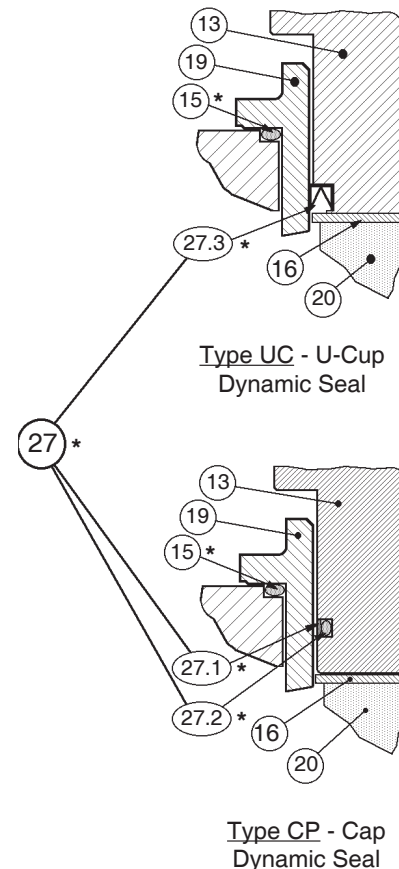
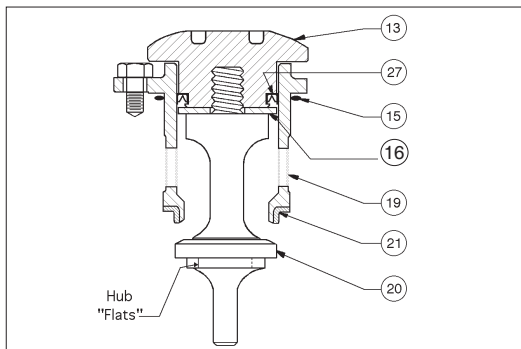

Figure 1: Dynamic Side Seals
Figure 2: Assembled ITA, with "UC" Dynamic Side Seal
6. A detailed view of the dynamic side seal parts is shown in Figure 1; an assembled ITA in Figure 2; and a cross-sectional drawing of the entire regulator is shown in Figure 3.
1. To Disassemble the ITA (See Figure 2):
- a. Hold the lower part of the valve plug (20) in a bench vise; grasp in "smooth jaws" directly under plug's (20) seating disc portion on hub "flats" provided. **Do not hold on the machined surface in the plug's (20) spindle area.**
- b. Using a special double-posted spanner wrench fitting, (to order see NOTE in Section IX Parts Ordering Information), turn the piston-guide bearing (13) CCW to loosen. The piston-guide bearing (13) may be removed by hand after loosening.
- c. Remove ITA from vise. Pull the valve plug (20) down and out through the cage's (19) bottom opening.
- d. Examine the components (27.1, 27.2, 27.3) of the dynamic side seal (27) mechanism to determine if significant leakage was occurring. If the dynamic side seal shows signs of significant leakage, determine if operating conditions are exceeding pressure, pressure drop, or temperature limits.
- e. Remove dynamic side seal (27) components and discard. Special care should be taken when using "tools" to remove the components to ensure that no scratches are made to any portion of the piston-guide bearing (13) groove.
- f. Remove the shim (16) from within the cage (19).
- g. Remove seat ring (21); examine for signs of leakage. If seat ring shows signs of significant leakage, determine if operating conditions - pressure, pressure drop, or temperature exceed design limits.
1. Installation of dynamic side seal (27) (See Figure 1):
1. Position u-cup seal (27.3) over lower circumference of piston-guide bearing (13). Ensure the u-cup seal (27.3) is oriented with the center-open-downwards as shown in Figure 1, as the u-cup seal (27.3) depends upon the P1-Inlet pressure to activate proper sealing action.
2. Insert shim (16) into cage (19) and allow to rest inside the cage (19).
3. Position piston-guide bearing (13)
2. Place properly oriented seat ring (21) onto its shoulder at the lower end of cage (19).
- a. Insert valve plug (20) upwards through lower end of cage (19) and through the center hole of shim (16).
- b. Engage valve plug (20) with piston-guide bearing (13) threads and finger tighten.
- c. Place ITA into a vise with smooth jaws and grasp at hub "flats" location on the valve plug (20) that is not in the "spindle" zone. (See Figure 2.)
- d. Using a special double-posted spanner wrench fitting (to order see NOTE in Section IX, Parts Ordering Information), tighten the piston-guide bearing (13) to the valve plug (20) with 30 - 50 ft-lbs (41-69 Nm). Do **NOT** allow valve plug (20) to rotate against seat ring (21) during tightening.
1. Insert the return spring (22) into the body (23).
2. Fit cage O-ring seal (15) into the body (23) groove.
3. With the ITA held manually in the closed position, insert ITA and cage (19) into body (23).
4. Properly align all three cage bolt (18) holes as there is only one proper alignment possible. Apply a downward force to the top of the cage (19) until the ITA is lowered sufficiently to engage the cage bolts (18) with washers (17) into the body (23). Engage all of the cage bolts (18), then tighten the cage bolts in alternating one-half revolution increments to pull down the ITA evenly. **ENSURE THE ITA DOES NOT BECOME WEDGED AS IT IS SLID INTO THE BODY.** Tighten the cage bolts (18) to a torque value of 13-15 Ft-lbs (17.5-20.5 Nm).
5. Units with CTFE or VTFE seat ring (21): Due to the relative "hardness" of the CTFE and VTFE material, to obtain the best possible shutoff it is necessary to generate a "coined" seating chamfer.